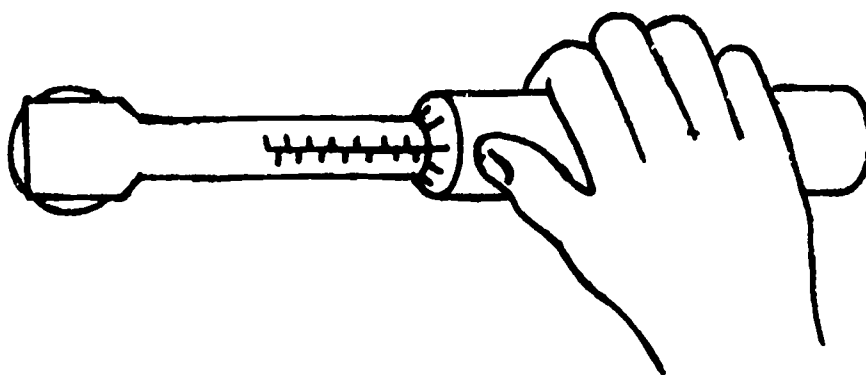

Figure 2.
8. Finger tighten all six (6) stud bolt and nut assemblies on the trainer until they are just barely snug - NOT tight.
- c. Holding the torque wrench as shown in Figure 2 below, and using a very slow, very steady, smooth pull, pull the handle toward you until the wrench "breaks away." (It will feel as though the wrench has slightly slipped.) Do NOT pull beyond this point because the nut is now torqued to exactly 200 inch pounds.